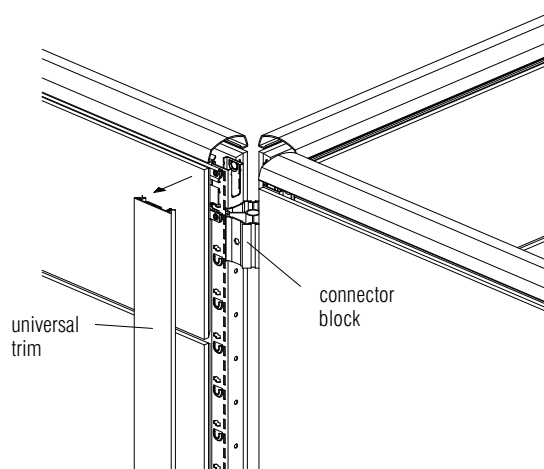

Figure 87
1. Add another panel to an intersection by simply removing the universal trim that is covering the side to which you will be adding another panel run. **Figure 87.**